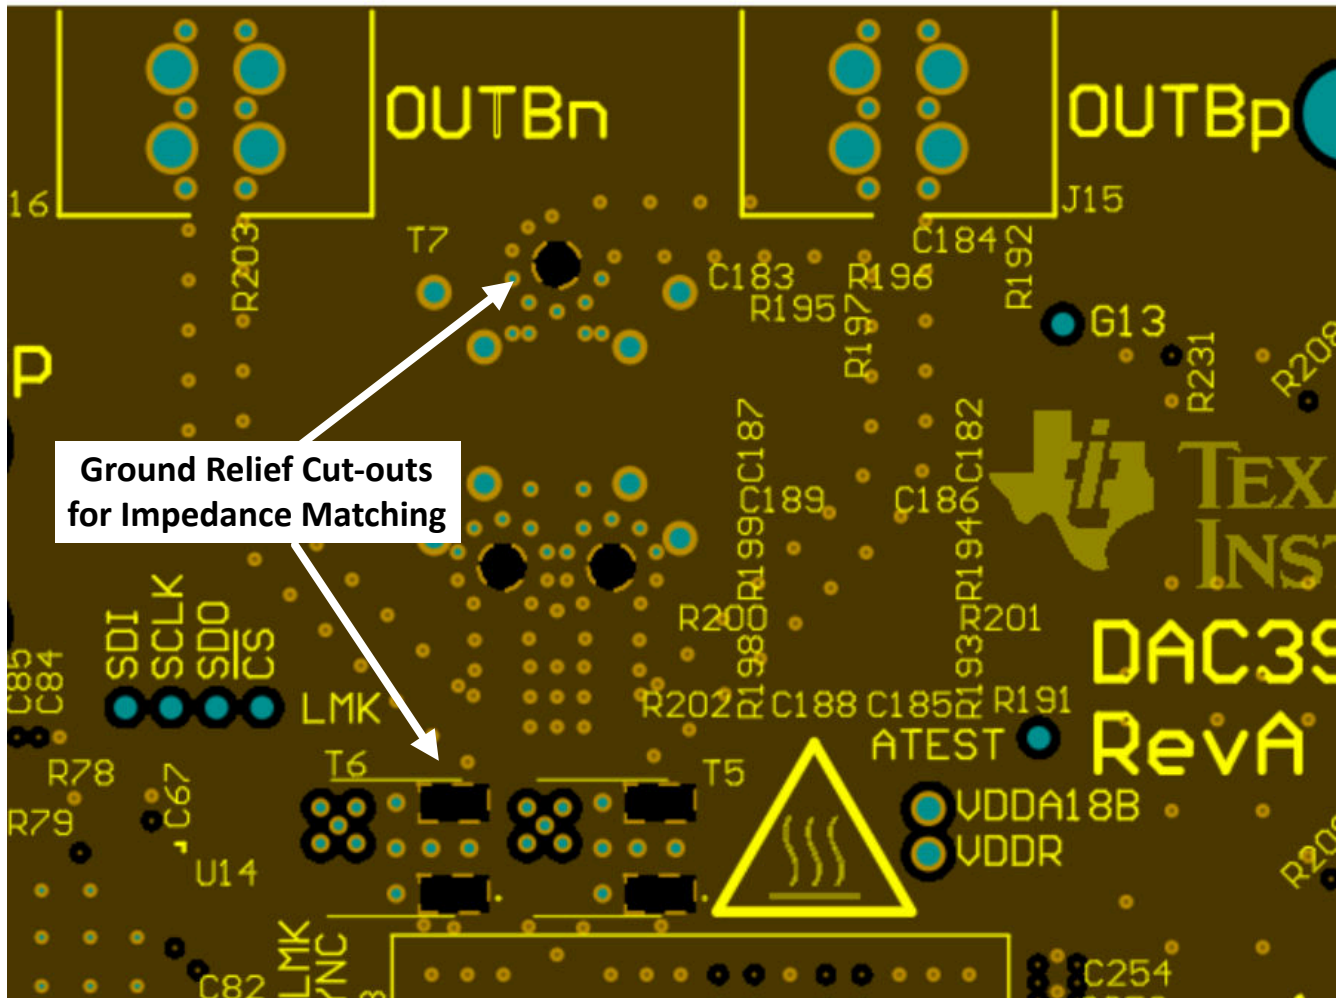
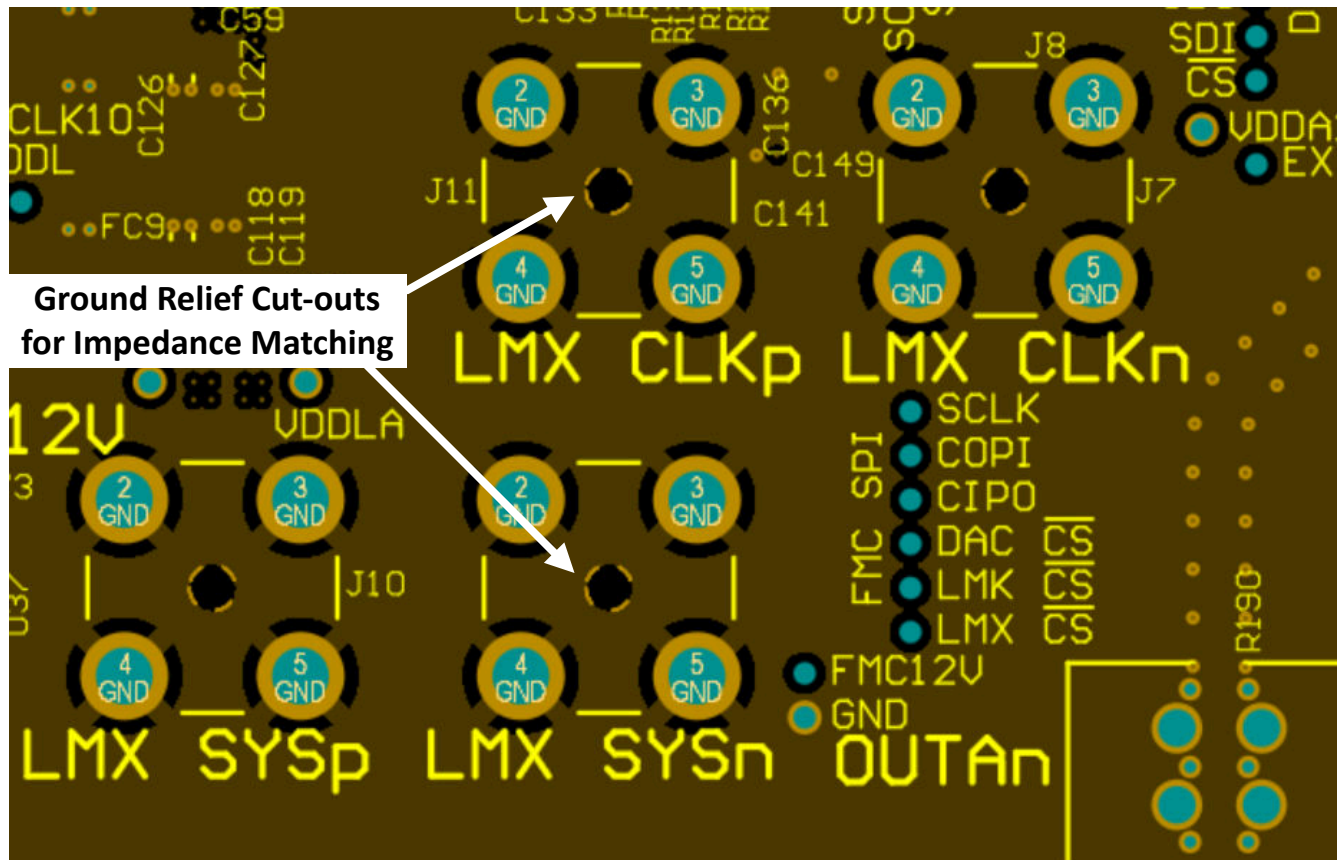

Figure 8-25. Ground Cut-outs below Balun and Bias-T Pins
Figure 8-26. Ground Cut-out Below SMA Connector Center Pin
5. Incorporate any ground plane cutouts necessary at component landing pads, ie – SMA connectors, baluns, etc., to avoid impedance discontinuities at these locations. Cut-outs below these landing pads on one or multiple ground planes to achieve a pad size or stackup height that achieves the needed 50- Ω , single-ended impedance. See Figure 8-25 and Figure 8-26 as an examples.